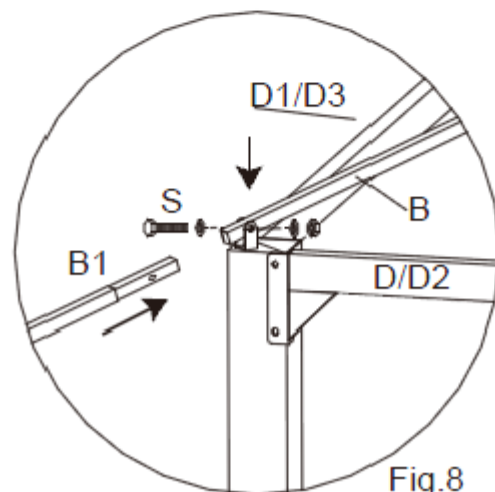

Fig.8
**Step 5B:** This step requires two people. One person (with the use of a ladder) holds the Main Roof Connector (A) and the corner supports (above the cross beams) while the second person inserts one Main Roof Corner Support Extension (B1) into a Main Roof Corner Support (B) and attaches it to the U-Shaped Connector (F) on top of the Corner Posts using Bolt, Nut, and Washers (S). Repeat for three remaining extensions (B1). See Figure 8. **TIGHTEN BOLTS.**